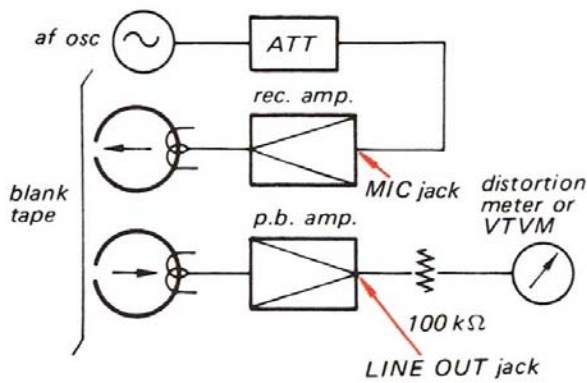

Fig. 3-2-13. Test setup for the items 11, 12, 13, 14 and 15
- Step 2. Thread a blank tape and place the set in RECORD mode, deliver a 1 kHz signal of -60 dB (0.775 mV) to the MIC jack and adjust the R120 (R220) to obtain 0 dB (0.775 V) on the VTVM. (See Fig. 3-2-13 and 3-2-14.)
- Step 2. Thread a blank tape, place the set in RECORD mode, deliver a 1 kHz signal of -90 dB (0.0245 mV) to the MIC jack and memorize the VTVM reading. (See Fig. 3-2-13.)
- Step 2. Thread the SONY tape "super 150" (SONY SLH tape), place the set in RECORD mode, deliver a 1 kHz signal of -90 dB (0.0245 mV) to the MIC jack and memorize the VTVM reading. (See Fig. 3-2-13.)
- Step 2. Place the set in RECORD mode, deliver a 1 kHz signal of -60 dB (0.775 mV) to the MIC jack and record the signal on a blank tape "SONY super 150" (completely erased). (See Fig. 3-2-13.) Memorize the LINE output level.